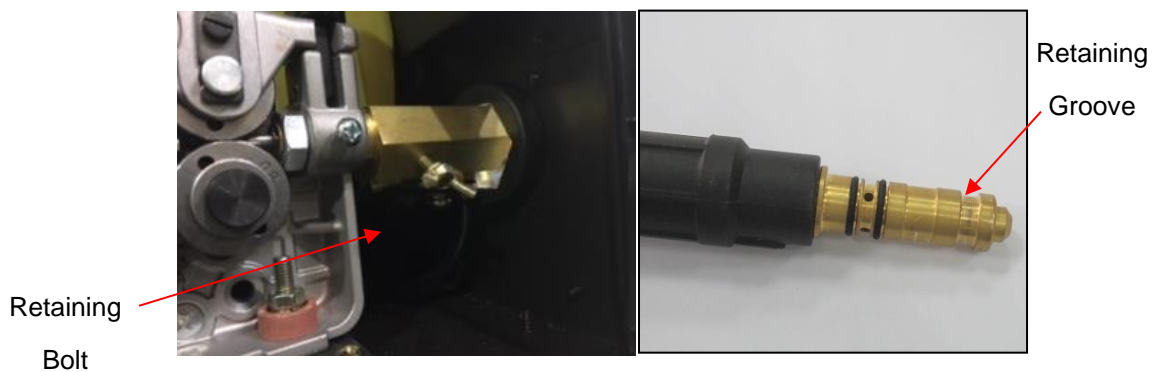

Figure 7
2. Make note of the retaining groove on the back end of the MIG torch (Figure 7).